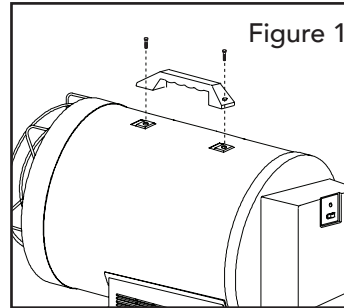

Figure 1
**i** **Attach the handle while still in the box for easier unpacking (see Figures 1 and 2).**